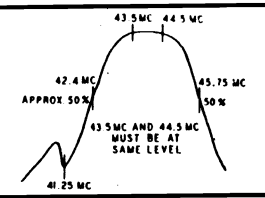
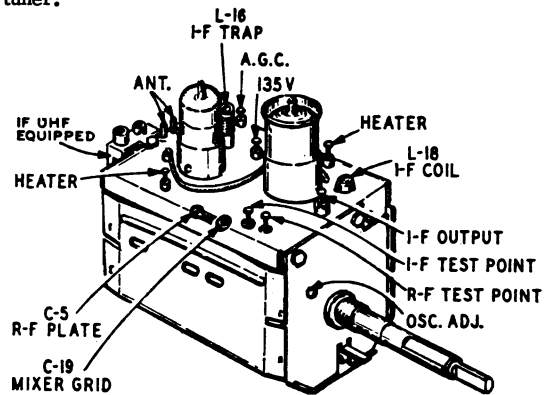

Fig. 6-Overall Pix IF Response Curve
Fig. 7 - Turner Adjustments
3. Set channel selector to Channel 13. Connect sweeper with very short leads through a 10 Kmmf disc ceramic capacitor to mixer grid (I-F test point, see figure 7). Readjust sweep output for 4.0V P-P, adjust 41.25 mc trap (bottom of L-200) so that notch is at marker, adjust mixer plate coil (L-18 primary) and input grid coil (top of L-200) for maximum gain and symmetry with 45.75 mc marker at 50%. (Figure 6.)
2. Connect oscilloscope to output of video detector. Place fine tuning in center of range. Check response on all channels. Sound marker should be in notch and picture marker at 50%. (See Overall Response Curve.) See Fig. 6.